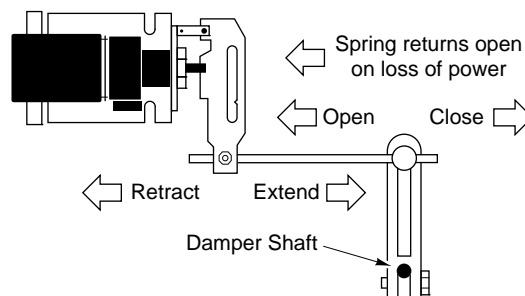
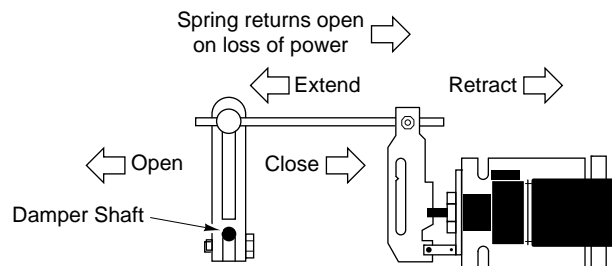

Figure-12 Dampers Open When Actuator Retracts (Spring-Returns Open on Power Loss).
Figure-13 Dampers Open When Actuator Extends (Spring-Returns Closed on Power Loss).
- a. Determine, from the system requirements, if the damper should spring-return to the open position (Figure-12) or closed position (Figure-13) whenever power is lost to the actuator. For example, an outside air damper actuator is typically linked so as to retract (spring-return) to the damper's fully closed position (safe position).